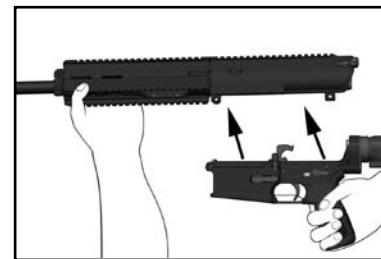
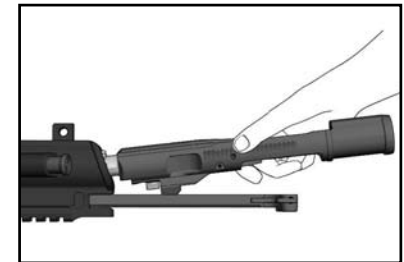

Fig. 24A – Removing the upper receiver
Fig. 24B – Removing Bolt & Charging Handle
- a. Remove the upper receiver from the lower receiver (Fig. 24A), depress the catch on the charging handle and withdraw the bolt assembly from the rear (Fig. 24B). Continue to pull the charging handle to the rear until resistance is encountered. Lift up on the charging handle and separate the charging handle from the upper receiver.